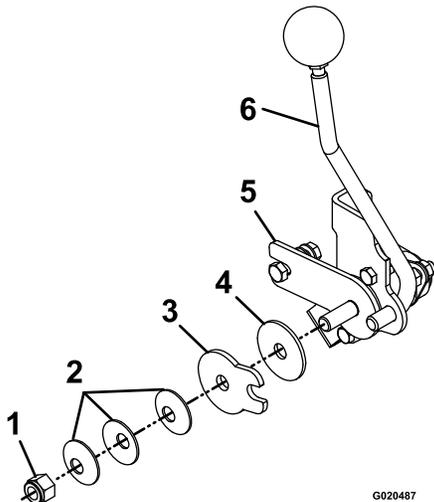

Figure 62
3. To adjust the tension, adjust the pivot nut which is located at the end of the motion control shaft in front of the right console (Figure 62).